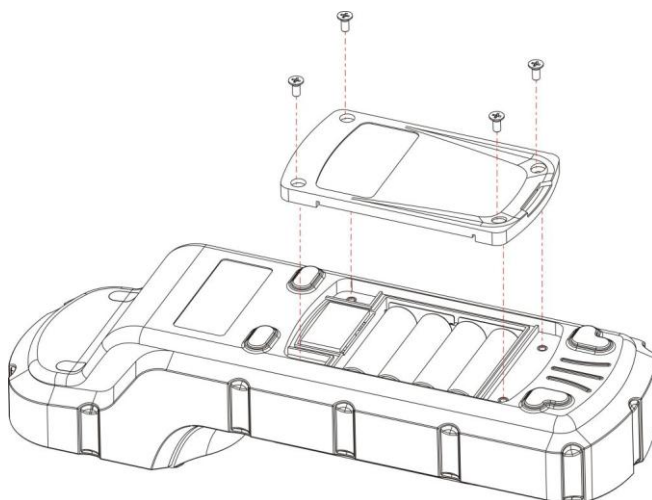

Figure 3 Replace Batteries
The Pyxis SP-900 battery compartment, shown in Figure 3, is on the back side of the instrument. Insert a small pad underneath the screen area to make the back surface level when the instrument is turned upside down. Install batteries as followings:
2. Insert four batteries into the battery holder as shown in Figure 3. Make sure the positive battery polarity marker (+) is aligned with the positive marker (+) on the battery holder.